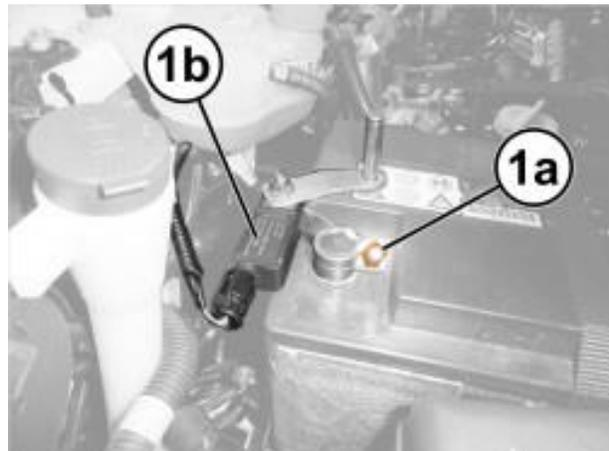

Figure 2 – Battery Negative Terminal
4. Loosen the nut (1a) and remove the Intelligent Battery Sensor (IBS) (1b) from the battery (Figure 2).
17. Install the Intelligent Battery Sensor (IBS) to the battery and tighten the fixing nut to 16.5 N·m (12 ft. lbs.) (Figure 2).